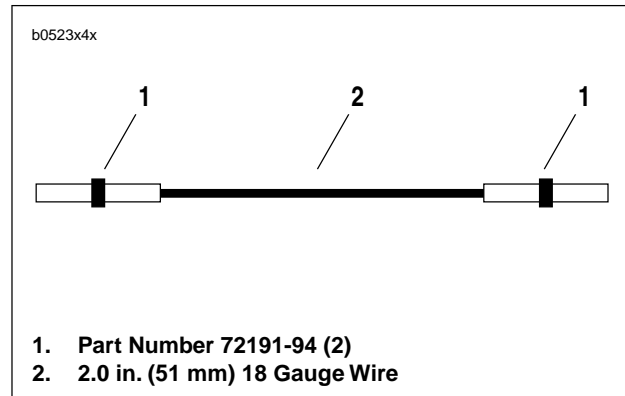

Figure 4-117. Diagnostic Test Wire
- a. See Figure 4-117. Create diagnostic test wire from parts shown.